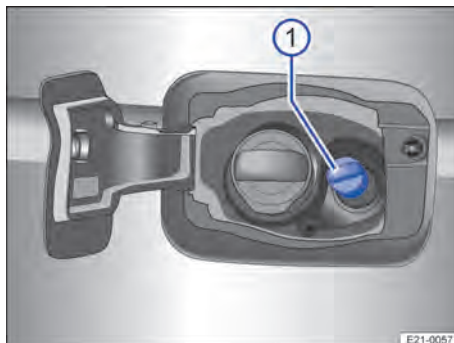

Fig. 164 Behind the tank flap: AdBlue filler neck cap.
The AdBlue® filler neck is located behind the tank flap next to the tank filler neck for fuel → Fig. 164 ①.